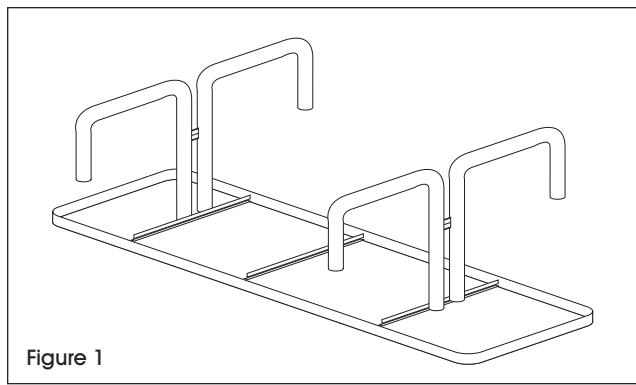

Figure 1
2. Flip the tabletop upside down. Take one leg at a time and loosely attach to the tabletop with the leg braces on an inside mount, using one bolt, washer and one nut. (See Figure 1)